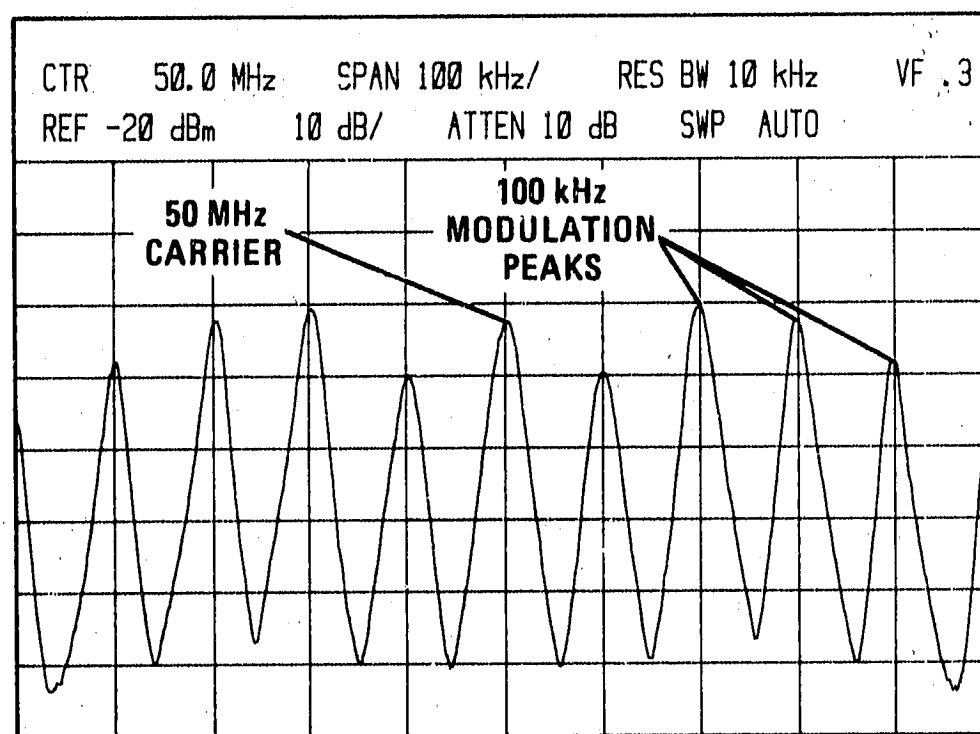

Figure 5-44. Spectrum Analyzer Plot with 100 kHz FM
- Adjust PEAK DEVIATION of signal generator to display a total of 10 modulation peaks plus carrier, as shown in Figure 5-44.